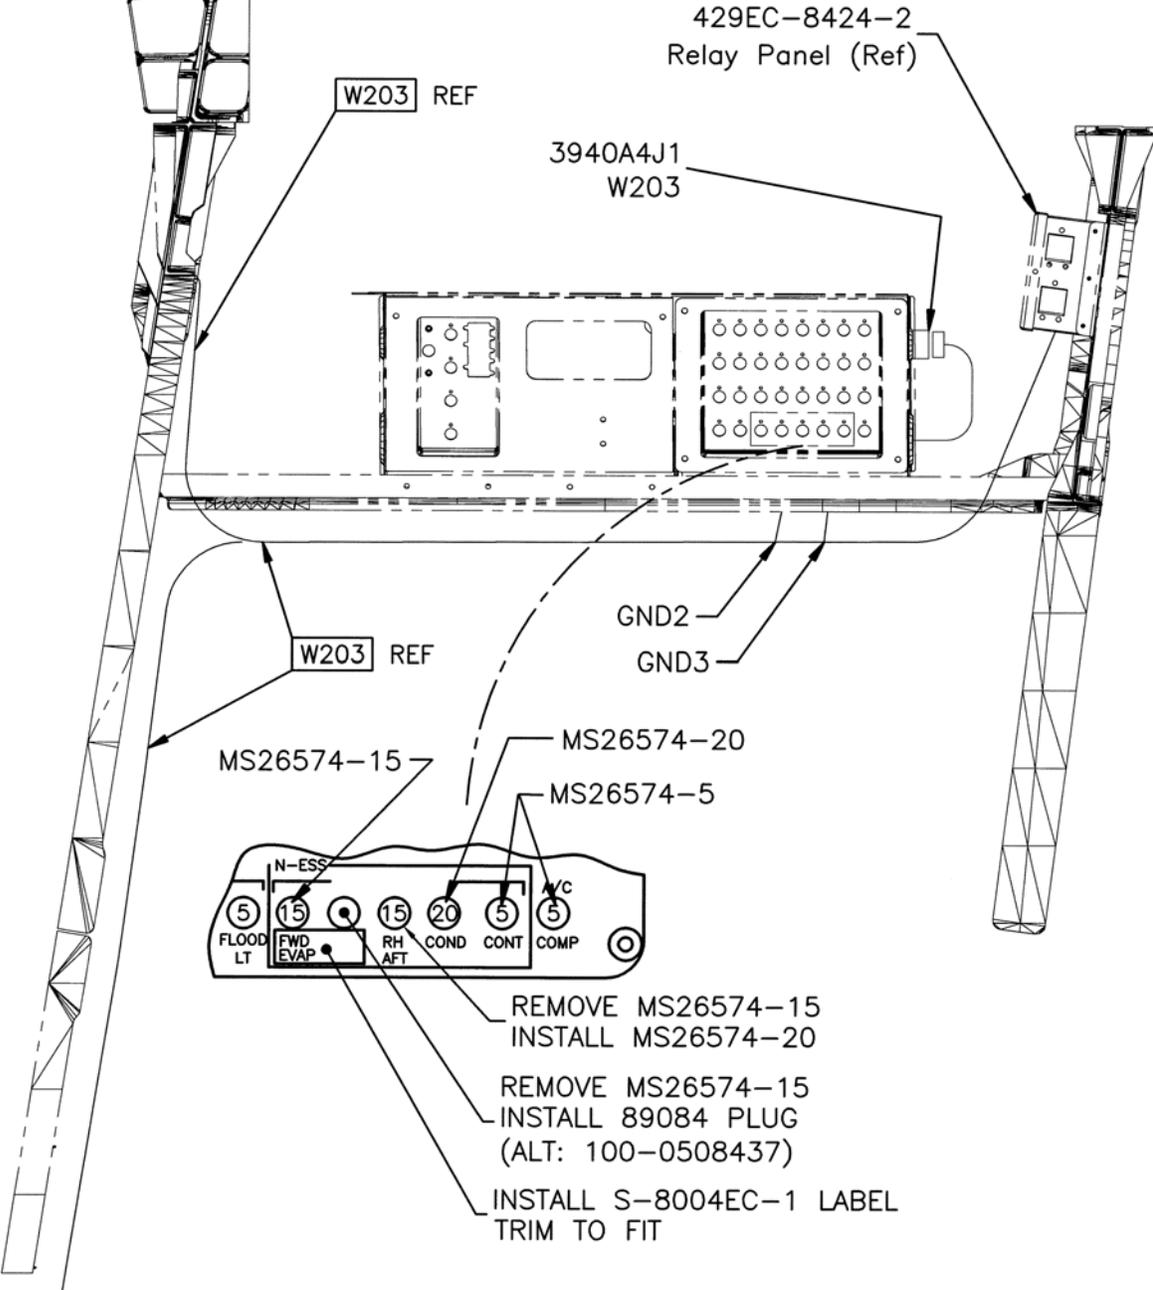

Figure 15: Circuit Breaker Change Details
See Figure 15.
6. Attach S-8004EC-1 sticker label to circuit breaker panel as shown in Figure 15.